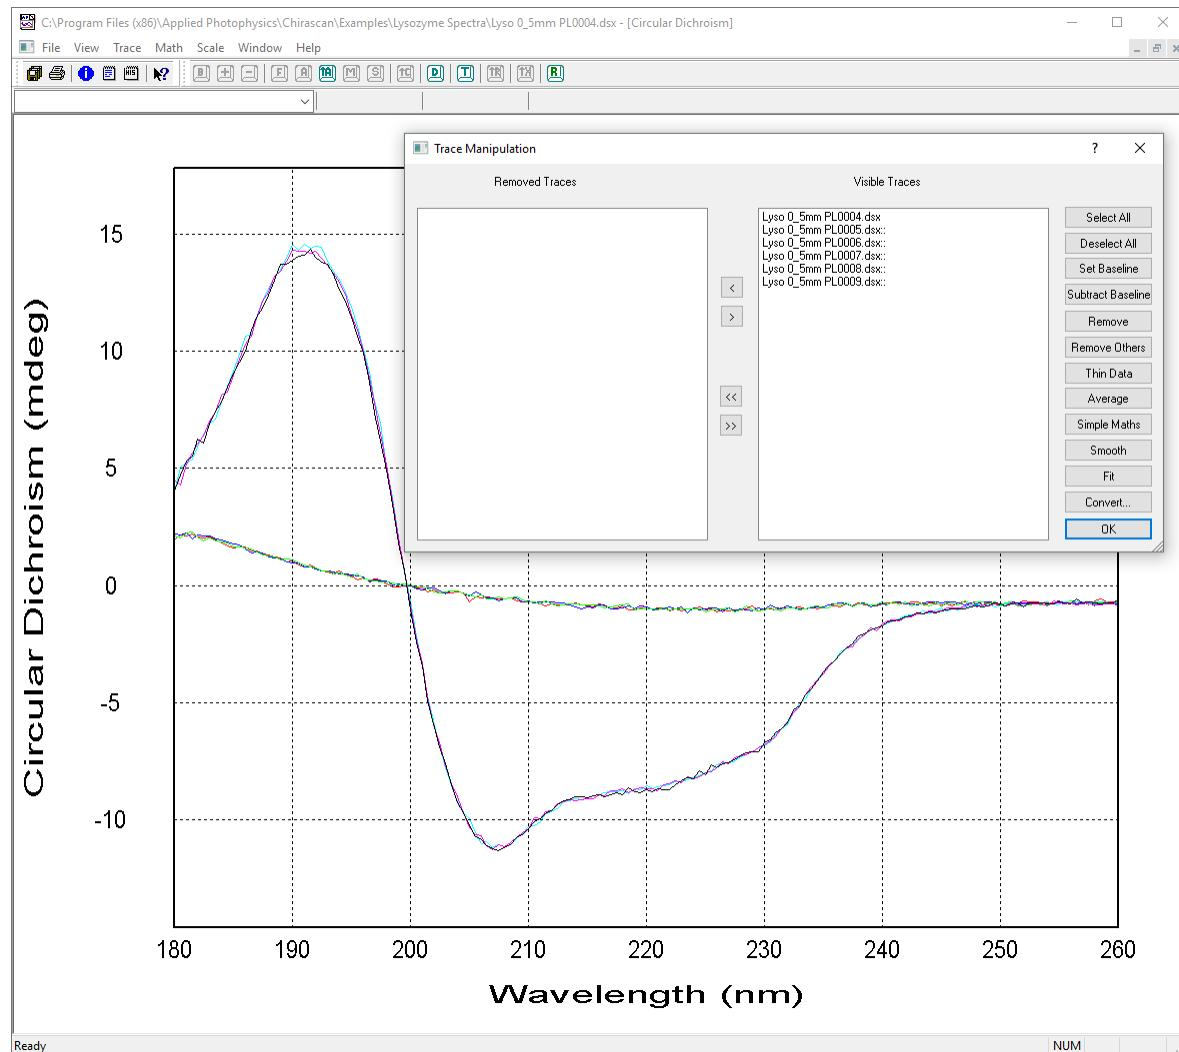

Figure 6: Raw data with Trace Manipulation dialog called up
3. Click on  in the Graphical Display [105] toolbar to call up the Trace Manipulation dialog [113] (Figure 6).